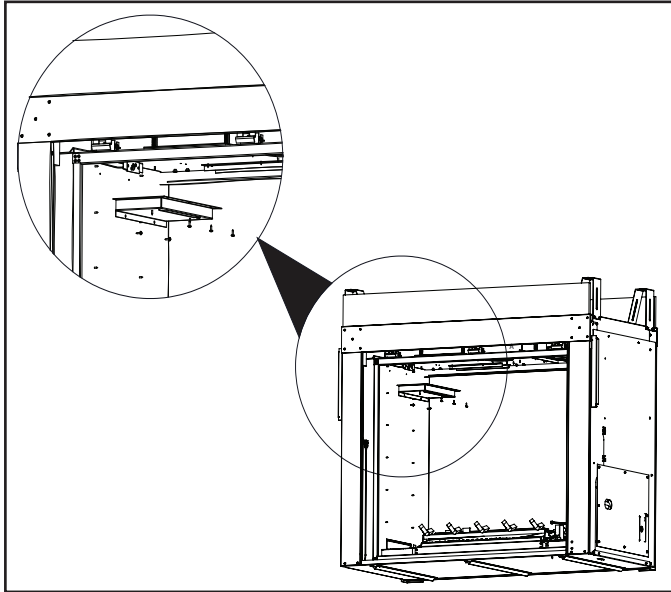

Figure 10.8 Light Box Removal
3. The light bulbs are included in the Homeowner's Manual packet. Install the light bulbs into bulb sockets as shown in Figure 10.8. **CAUTION:** Finger prints or the transfer of oil from hands will reduce the lifespan of the bulbs. It is advisable to handle the light bulbs with a clean cloth.